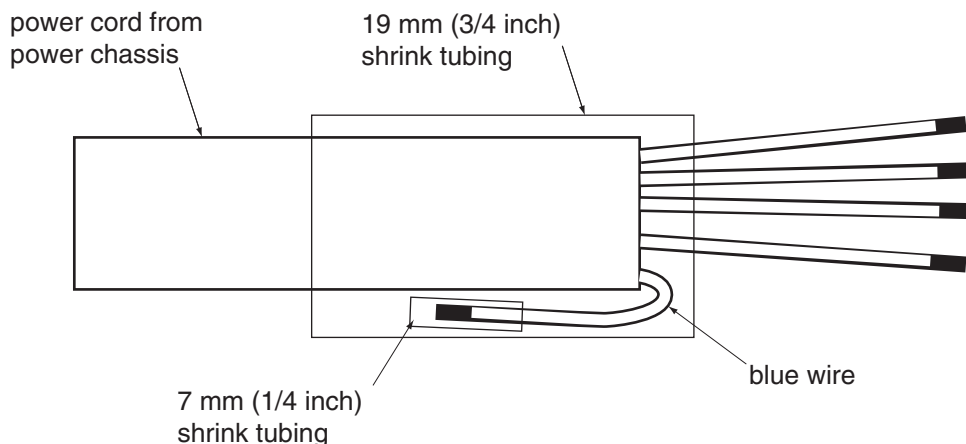

Figure 6-2. Insulating Blue Wire in Power Cord (200-240 VAC)
Refer to Figure 6-2 for this procedure.
4. Remove and discard the 7 mm (1/4-inch) shrink tubing from the end of the blue wire in the power cord (see Figure 6-2 on page 52).